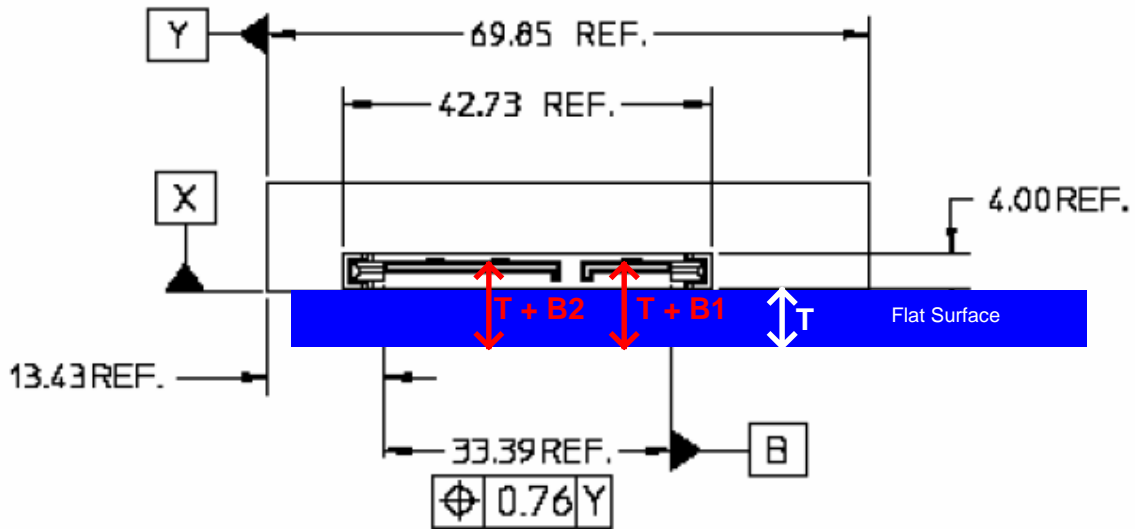

Figure 15
3. At the rightmost part of the plug (see Figure 15), measure the distance from the top of the tongue of the SATA plug to the bottom of the flat surface. Record this value as  $T+B1$ .
4. At the leftmost part of the plug (see Figure 15), measure the distance from the top of the tongue of the SATA plug to the bottom of the flat surface. Record this value as  $T+B2$ .